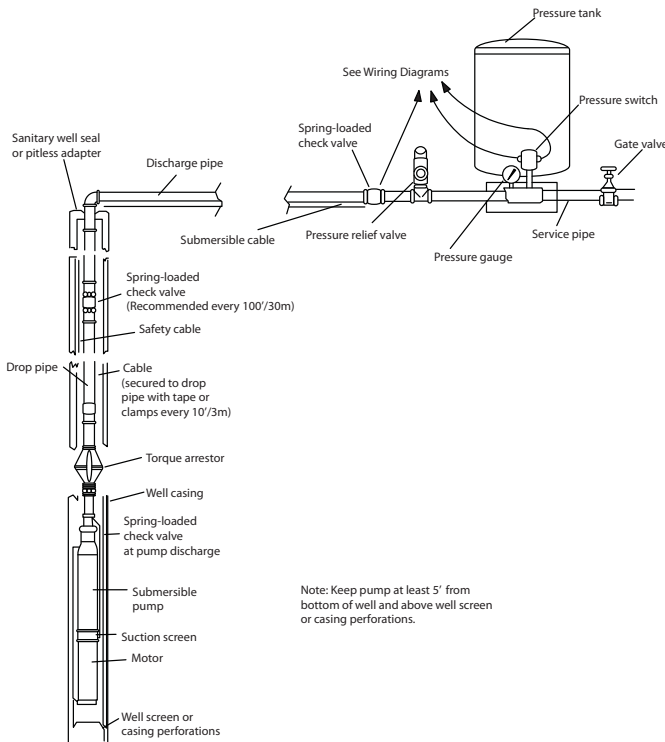

FIGURE 1
2. Install pump and components appropriate for the test as shown in Fig. 1.
2. A torque arrestor just above pump to prevent chafing the cable when pump and pipe twist during the starting and stopping cycle. (See Figure 1.)
Figure 1 illustrates a typical well installation showing in ground components. Adhere to the following items when installing the pump and drop pipe: